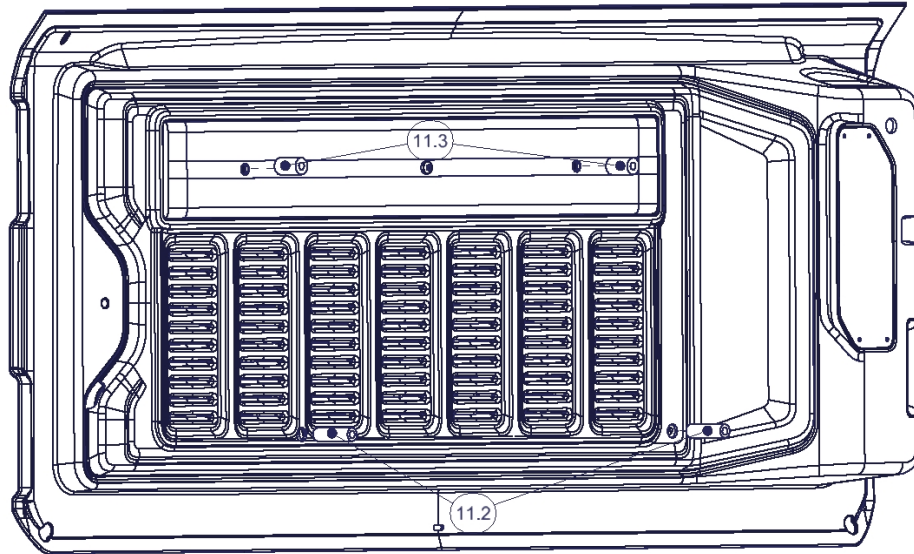

Figure 10
13. Place the (2) #11.3 Spacers in the TrailRail slot over the threaded mounting holes and the (2) #11.2 Spacers in the lower holes. See Figure 10.